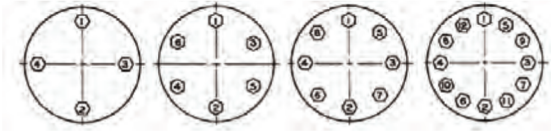

Figure 4
- Slowly and squarely, lower the bonnet (8) over the plug stem (1) & body studs (10) into bolting position.
- Apply a light coat of a lubricant, to body stud threads and the bearing surface of the body stud nuts (11).
- Evenly tighten body stud nuts (11) in the sequence as given in Figure 4.
- Slide guide bush (9) over top plug stem (1), dropping it to the bottom of the packing box.
- Insert packing (7) and spacer / lantern ring (6). Determine correct quantity of packing required after disassembly and ensure it after re-assembly.
- Insert packing follower (5), flange (4) and nuts (3). Packing flange nuts should be finger tightened (see paragraph 7.1).
- For actuator assembly and plug stem (1) adjustment, proceed to the actuator instruction manual.